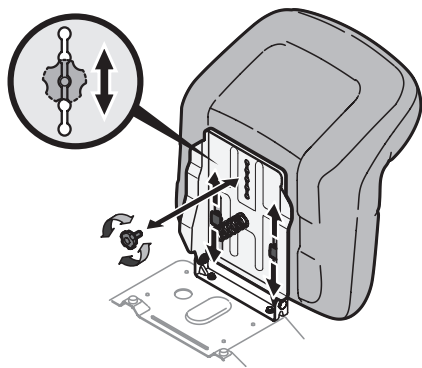

Figure 10
1. To adjust the position of the seat, remove the adjustment knob on the bottom of the seat. Slide the seat forward or backward as desired. Reinstall the adjustment knob (Figure 10).